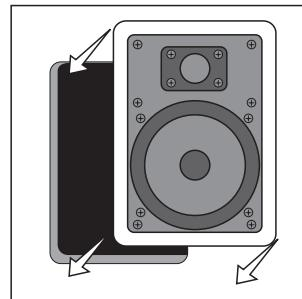
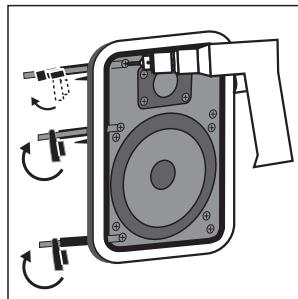

FIGURE 13
FIGURE 14
- Loosen the rotating wall clamps by unscrewing them. Make sure that the rotating wall clamps are flipped inwards so that your speaker fits into your cutout without nicking your wall. Then place the speaker carefully into the cutout [figure 13]. If you have a level, use it to help you correctly align the speaker. Tighten the wall clamp screws with a screwdriver. This will rotate the wall clamps and secure the speaker to the wall. Hint—on the RC55*i*, RC65*i* and RC85*i* models, tighten the center screws before tightening the corners for the most flush fit to your wall. *Do not overtighten the wall clamp screws* [figure 14].